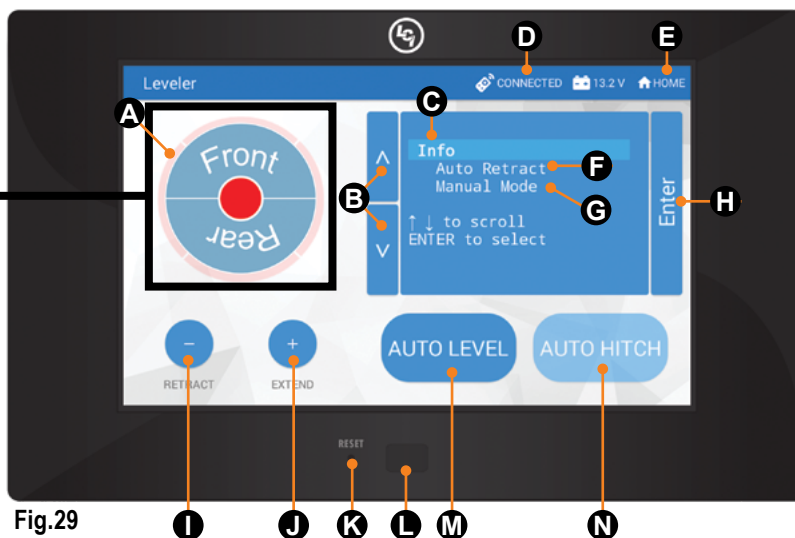
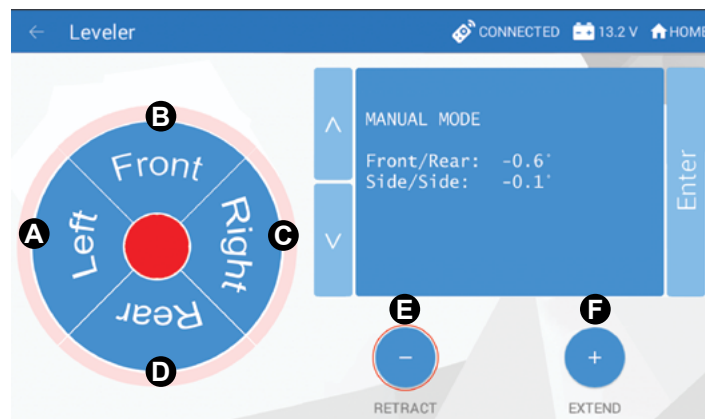

Fig.29
Fig.32
mode See Fig.32
A	Jack Buttons - Select Front, Rear, Right and Left jacks to be operated depending on mode. Jacks available to be operated will be highlighted in blue. Only the Power Tongue Jack can be operated in Standard Mode (Fig.29). In Manual Mode (Fig.32), all leveling jacks are available to be operated (no Power Tongue Jack operation available).
To reach Standard Mode (Fig.29) for leveling:
4. The screen will show the system menu (Fig.29) for Standard Mode. The Power Tongue Jack can be extended/retracted in Standard Mode. Front and rear jacks cannot be operated in standard mode.
To reach Manual Mode (Fig.32) for leveling:
1. While in Standard Mode (Fig.29), use the arrows (Fig.29B) to scroll to Manual Mode (Fig.29G). Hit "ENTER" (Fig.29H).